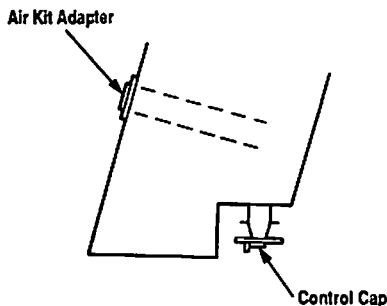

Figure 49
Step 1. Remove cover plate from left side of Stoveplace II™. Slide combustion air kit adapter through the opening with the flange on the outside of Stoveplace II™ and secure with the screws provided with the adapter kit (Figure 49).